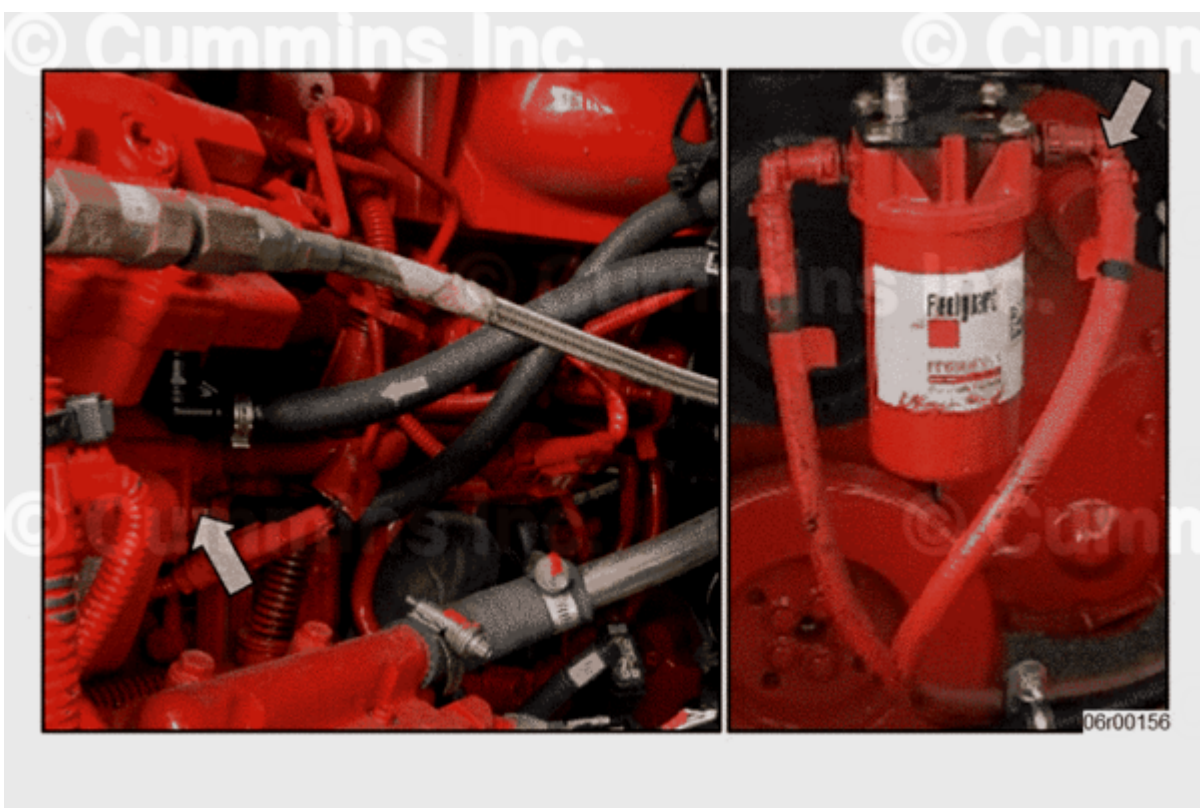

Figure 3, Indication of Fuel Pump Outlet and Fuel Filter Return Quick Connect Fitting Locations.
- Figure 3 below indicates the fuel pump outlet and fuel filter head return connection points.